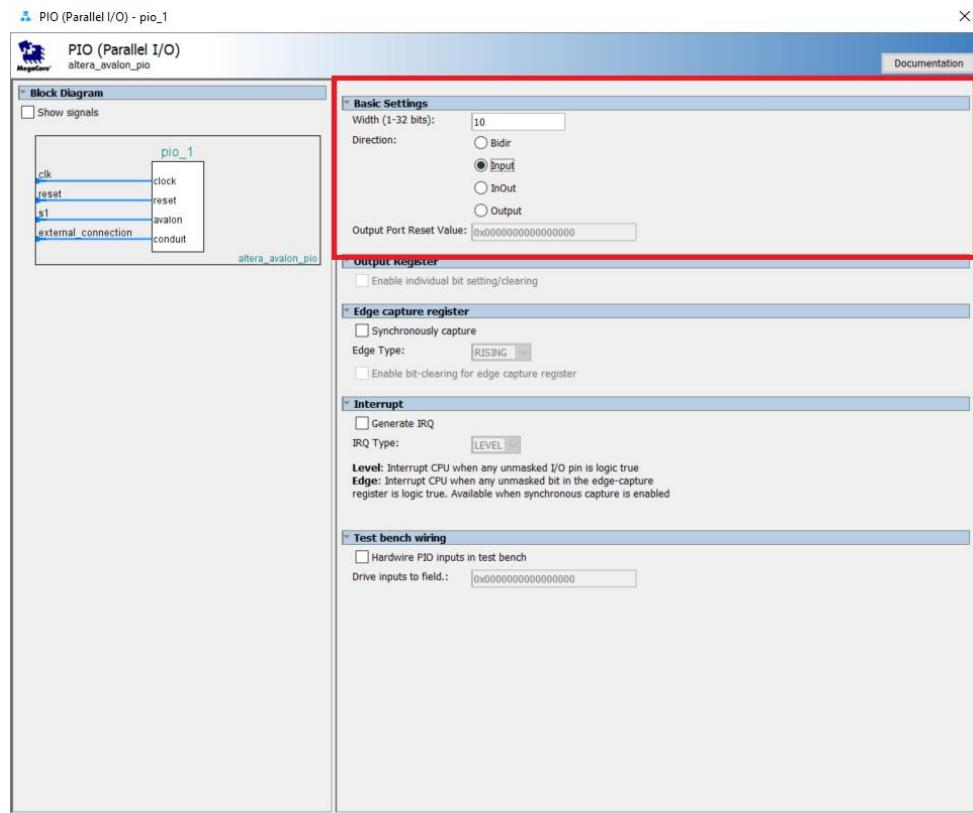

Figure 14: Parallel IO Configuration Panel for Switches
15. When you have setup your switch input component interface as in Figure 14, click **Finish**.